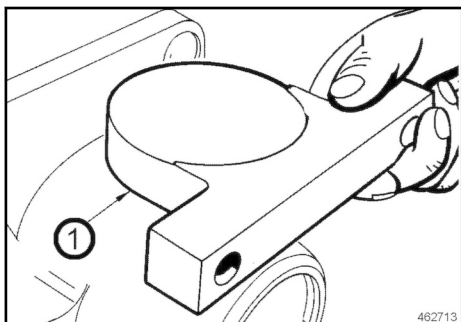

Fig. 186
1. Pull bearing blocks 1 ↗ Fig. 186 off both sides.